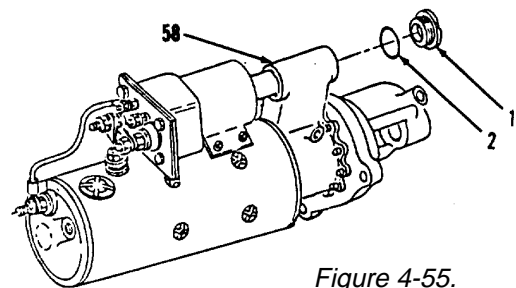

Figure 4-55.
8. Install new preformed packing (2) and plug (1) in housing (58, Figure 4-55).